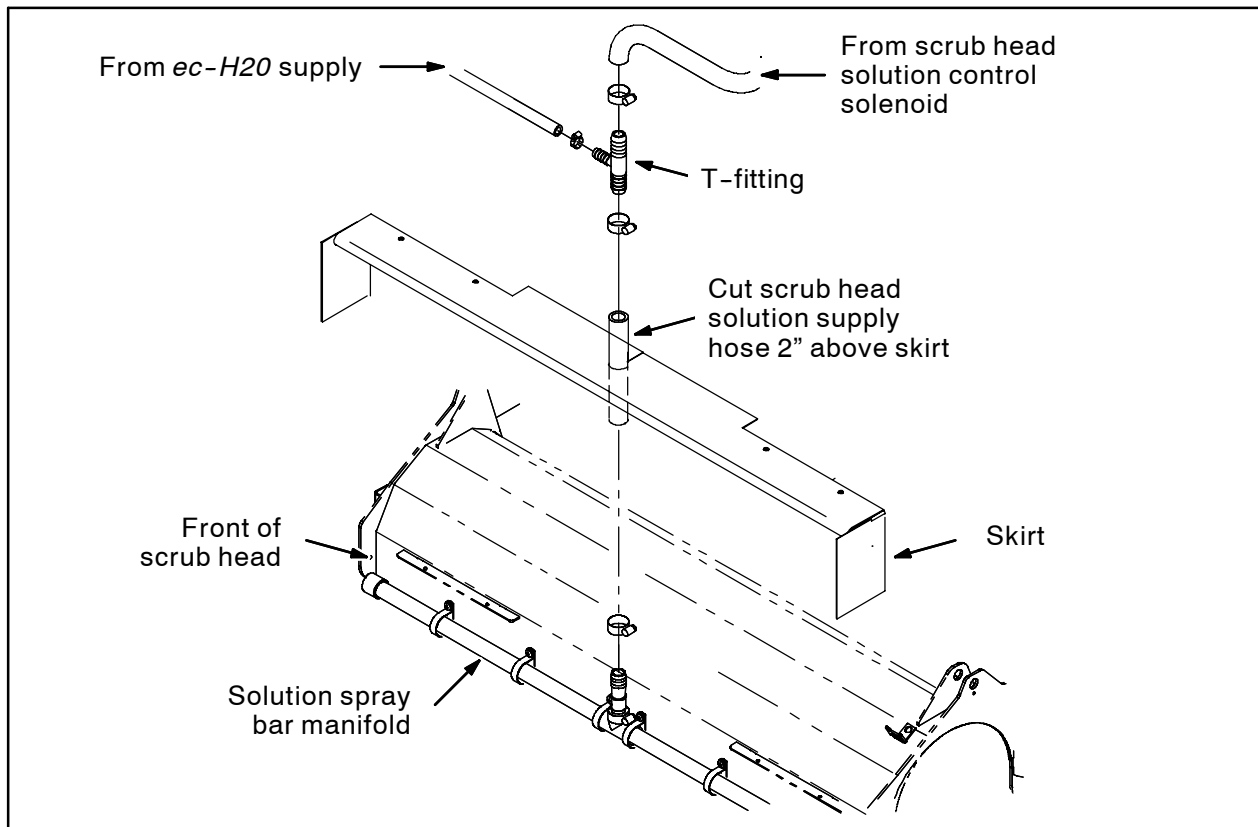

FIG. 7
32. Cut the solution supply hose to the scrub head approximately 2" from the top of the skirt. Refer to Fig. 7.
33. Use a hose clamp to connect the t-fitting to the hose from the solution spray bar manifold. Refer to Fig. 7.
34. Use a hose clamp to connect the hose from the scrub head solution solenoid to the t-fitting. Refer to Fig. 7.
35. Use a hose clamp to connect the 20" PVC hose from the y-fitting to the t-fitting. Refer to Fig. 7.